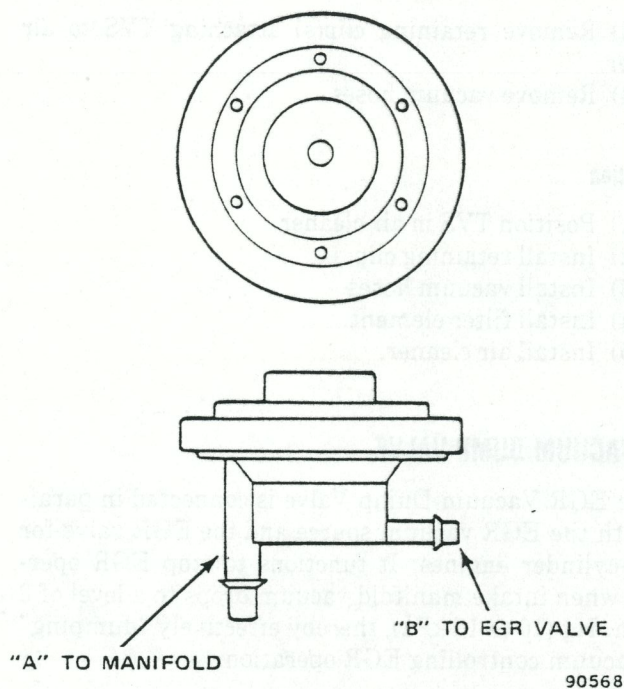

Fig. 1J-147 EGR Vacuum Dump Valve
- (1) Connect manifold vacuum hose to port "A" (fig. 1J-147).
- (2) Connect EGR valve vacuum hose to port "B" (fig. 1J-147).